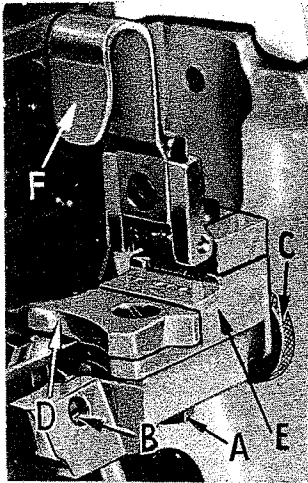
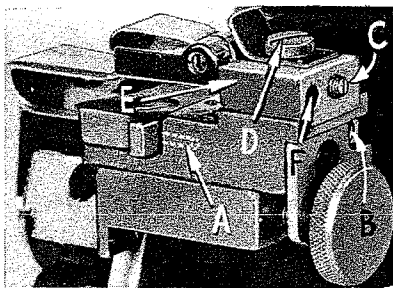

Fig. 18
Fig. 19
Under normal conditions, the edge guide is spring loaded to compensate for the differences in the material thickness. The amount of movement and the pressure applied to the edge guide tip can be set by removing lock screw (B, Fig. 19) and adjusting the screw which presses against the spring and pin, located in the hinge block and edge guide support bracket (E, Fig. 18). Replace lock screw and tighten securely.
If movement of the edge guide is not required, then remove lock screw (B, Fig. 19), set screw and spring; then replace set screw and lock screw. Be sure set screw is tightened against pin and lock screw is tightened against set screw.
Adjust the edge guide (D, Fig. 18) by turning the knurled adjusting screw (C) so that the stitches are located in the folded edge, yet do not show on the face of the fabric. At this point re-tighten screw (A, Fig. 18) securely.
Adjust the overhanging guide (F, Fig. 18) so that the space between its guiding edge and the edge guide (D) corresponds with the thickness of the material to be hemmed. Loosen set screw (C, Fig. 19) and holding screw (D), now move the hinge block (E) to obtain the proper distance between the edge guide and the overhanging guide. Re-tighten screws (C) and (D). Remove lock screw (F) and adjust stop screw that is in front of lock screw, so that the tip of the overhanging guide is located at the center of the edge guide vertically. Replace lock screw (F) and tighten against stop screw.